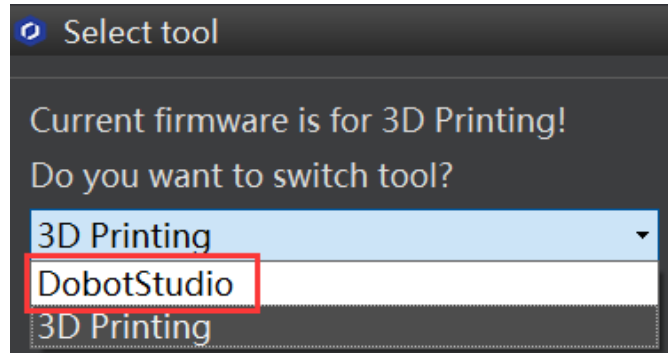

Figure 5.61 Select the DobotStudio to upgrade the Dobot firmware
1. Select **DobotStudio** to upgrade the Dobot firmware, as shown in Figure 5.61. The **Question** dialog box is displayed.